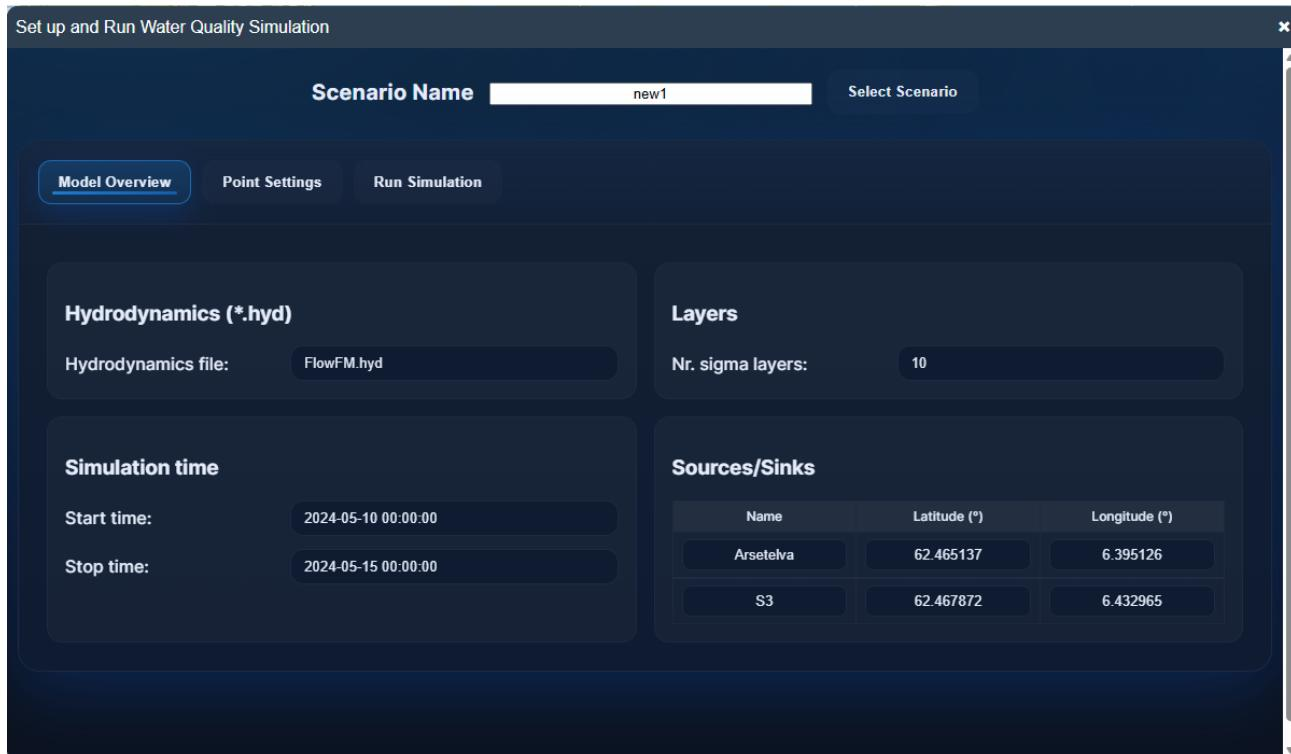

Figure 4.2. Properties of the selected HYD scenario
- ❖ **Model Overview:** This tab summaries properties of HYD scenario used (Figure 4.2). User don't have to do or make any changes in this tab.